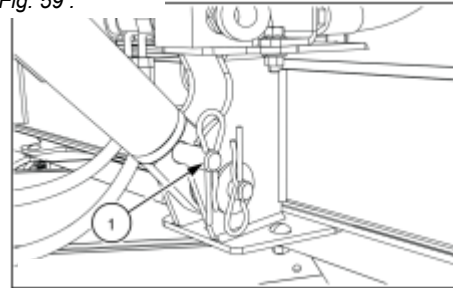

Fig. 60 .
13. Remove the pin(1) shown in Fig. 60 and store in a safe place.